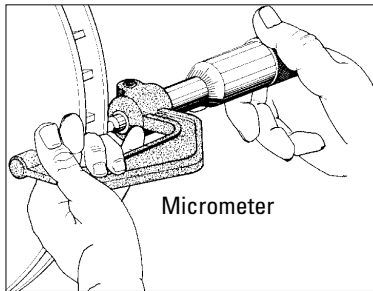

Figure 5
2. Use a micrometer to check the thickness of the rotor (figure 5) at no less than 3 points around the circumference about 1" (2.54 mm) in from the outer diameter.